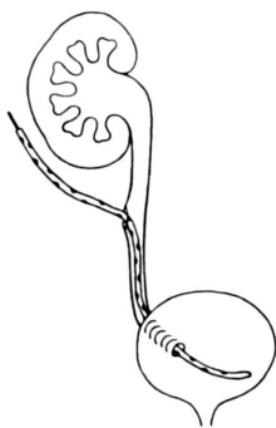

Fig. 3
2. Grasping the stent and wire guide between the thumb and index finger, advance the stent through the incision in the ureter and into the bladder (**Fig. 3**).